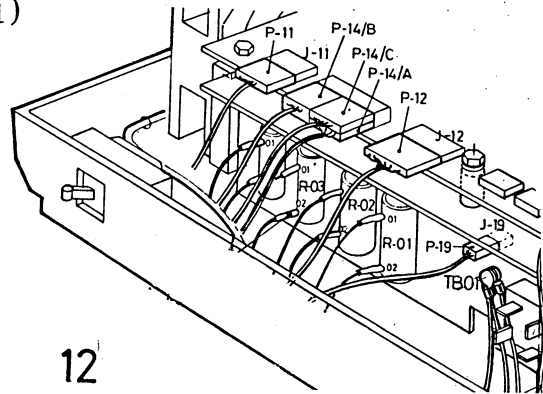

Fig. 7-10 Resistances/Connectors Localization
- . Disconnect the motor power cable (P14B) on the DRIVE PWA (See fig. 7.10)
- . Unsolder the connections on resistances R.01 - R.02 - R.03 - R.04 (see fig. 7.10)
- . Connect the power cable P14B on the DRIVE PWA. (See fig. 7.10)
- . Solder the connections on resistances R.01 - R.02 - R.03 R.04 (See fig. 7-10)